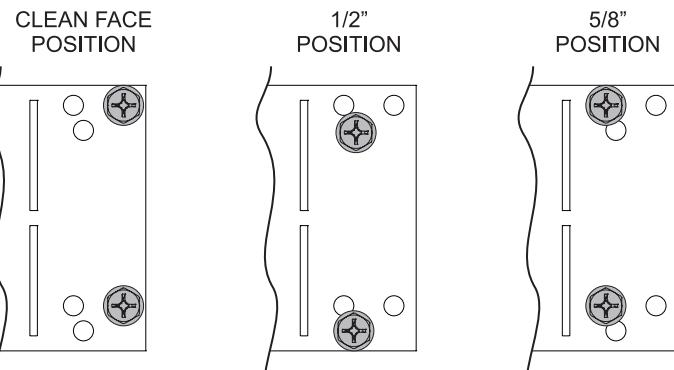

Figure 13
3. Locate the nailing flanges in the installation envelope and attach them to the sides of the fireplace with two #10-32x1/2 hex screws each. The flanges have three positions to accommodate the wall board being installed over the face of the unit (clean face) or flush with the face of the unit with 1/2 in. or 5/8 in. thick wall board. See **Figure 13**.